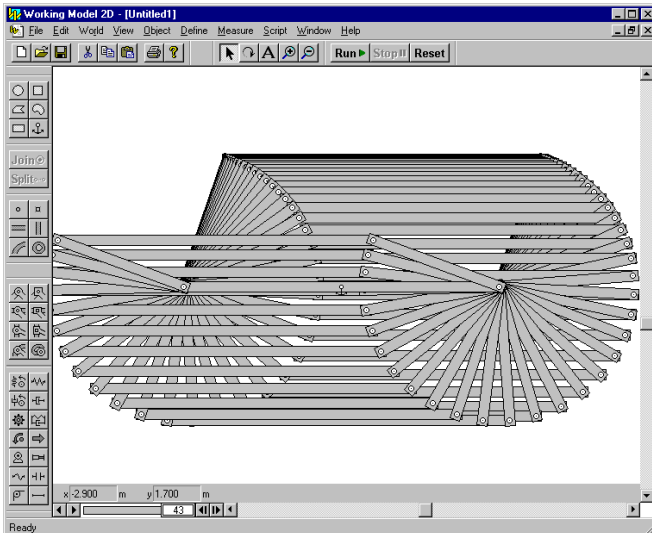

Figure 11. Building a fourbar linkage, Step 12, simulation.
12. Simulate the linkage again. Since the linkage is symmetric ($s+l=p+q$), it is a "Special-case Grashof" linkage (Class III). You should see the double crank, Figure 11, and double rocker, Figure 11, motions intermittently, shown below left and right, correspondingly. Press the stop button after the simulation has run long enough to exhibit both types of motion (less than 20-30 seconds) and reset the initial condition by clicking the *Reset* button.